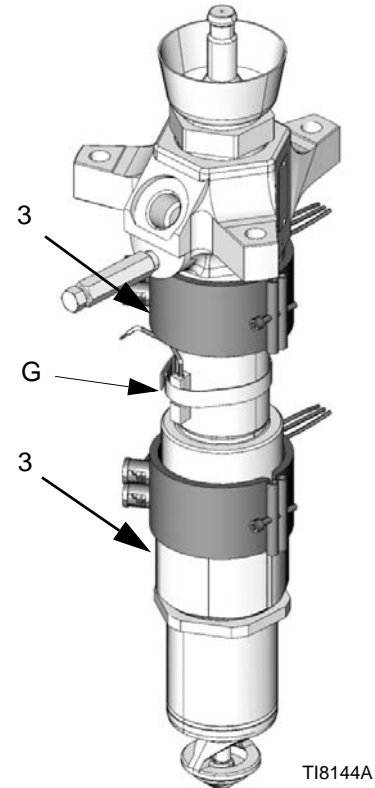

FIG. 25
2. Disconnect the electrical wires from heater band (3). See FIG. 25.
3. Loosen the clamp holding sensor on pump (G). See FIG. 25.